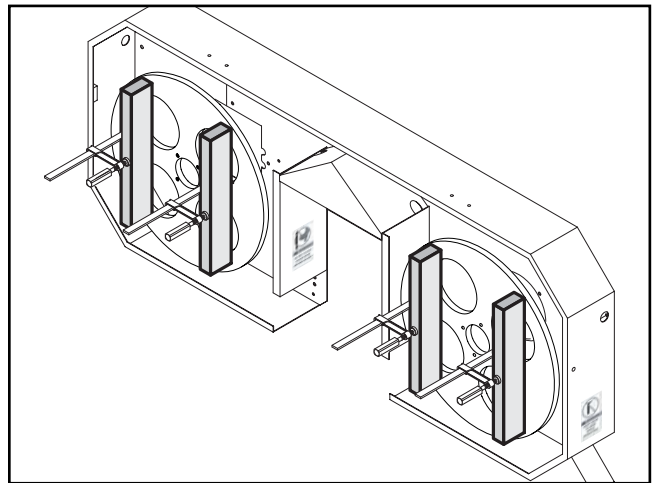

Figure 45. Precision gauge blocks clamped in position on wheels.
5. Clamp the gauge blocks to the wheels as shown in **Figure 45**.